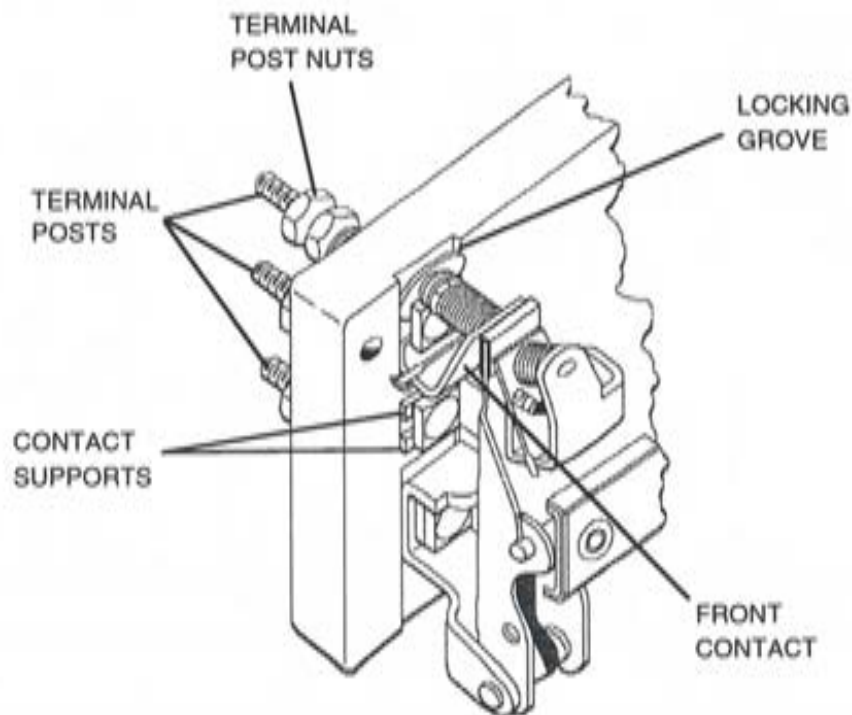

Figure 5-1. Front Contact
2. Loosen terminal post nuts (top row), holding front contact to terminal block (see Figure 5-1).